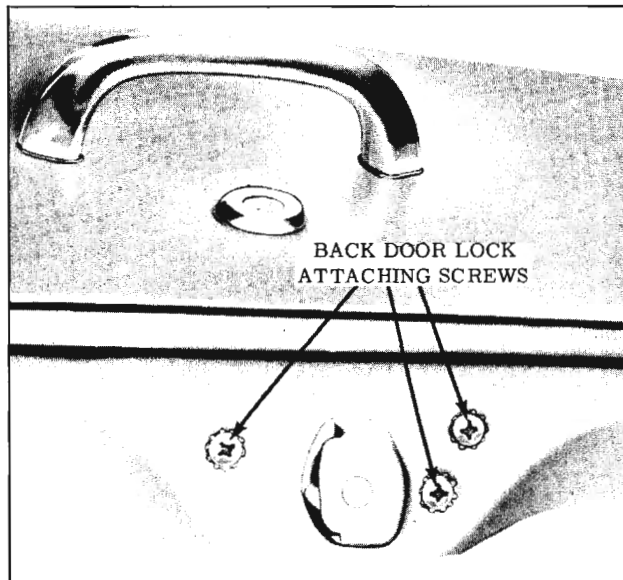

Fig. 16-289 Back Door Lock
4. Remove three back door lock attaching screws from face of lock pillar (Fig. 16-289) and remove lock through hole in door inner panel.